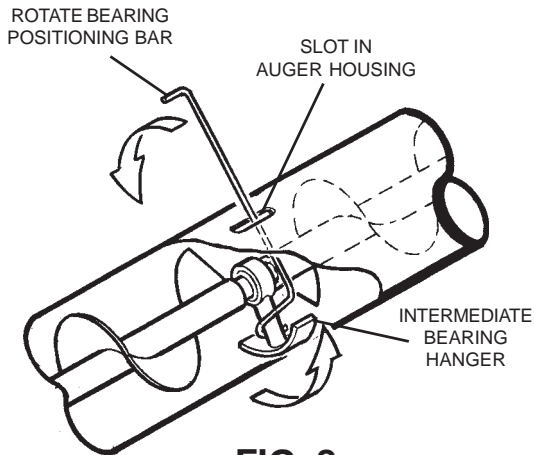

FIG. 8
A. Insert the double bended end of bearing positioning bar into slot and hook the bearing hanger stem. Rotate the stem upward as much as possible. See Fig. 8.